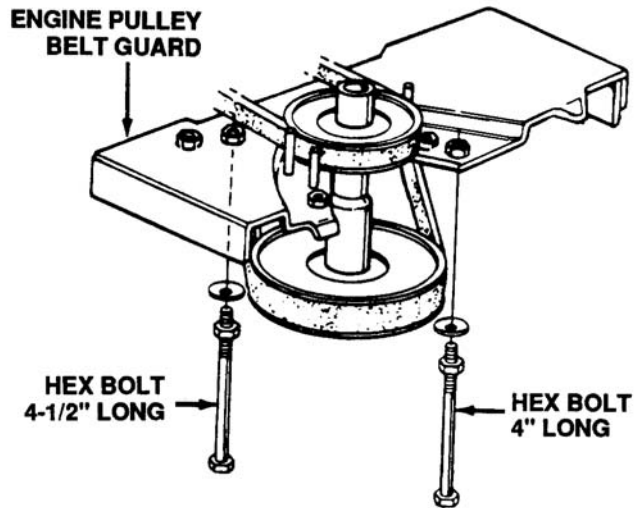

Figure 8-3. Location of Hex Bolts (Belt Guards)
7. Thread 5/16 inch hex nuts onto hex bolts 4 and 4-1/2 inch long. Place cupped washers 5/16 inch ID on hex bolts (crown side of washers goes against the nuts). See Figure 8-3.